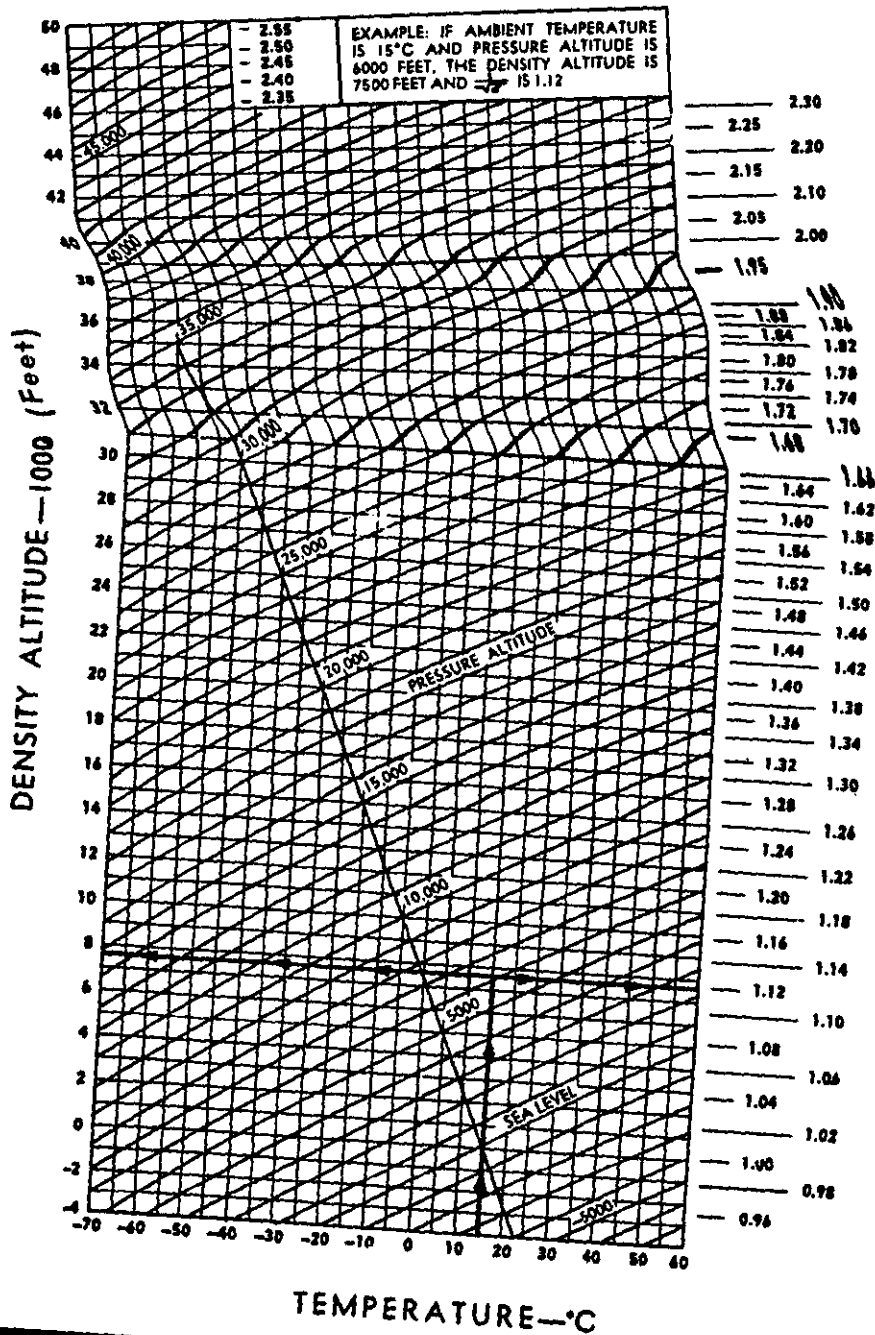

FIGURE 1. Density Altitude Chart
To answer test item 7, refer to the Density Altitude Chart, Figure 1.